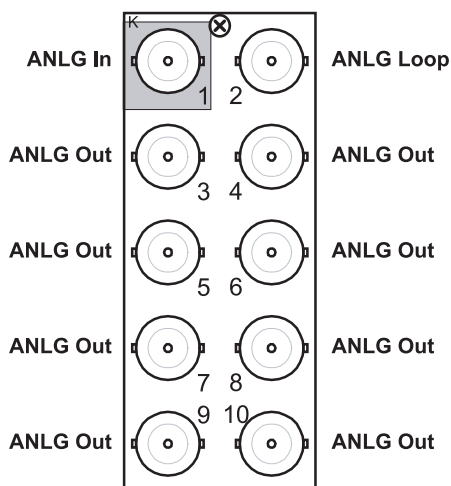

Figure 2.3 Cable Connections for the R1L-8707 and R2L-8707 Rear Modules
- **8310AR-032** (R1L-8707) Rear Module — Each card occupies one slot and provides eight analog video outputs, a single analog video input, and an input looping connection. Refer to **Figure 2.3** for cable connections.
- **8320AR-032** (R2L-8707) Full Rear Module — Each card occupies two slots and provides eight analog video outputs, a single analog video input, and an input looping connection. Refer to **Figure 2.3** for cable connections.